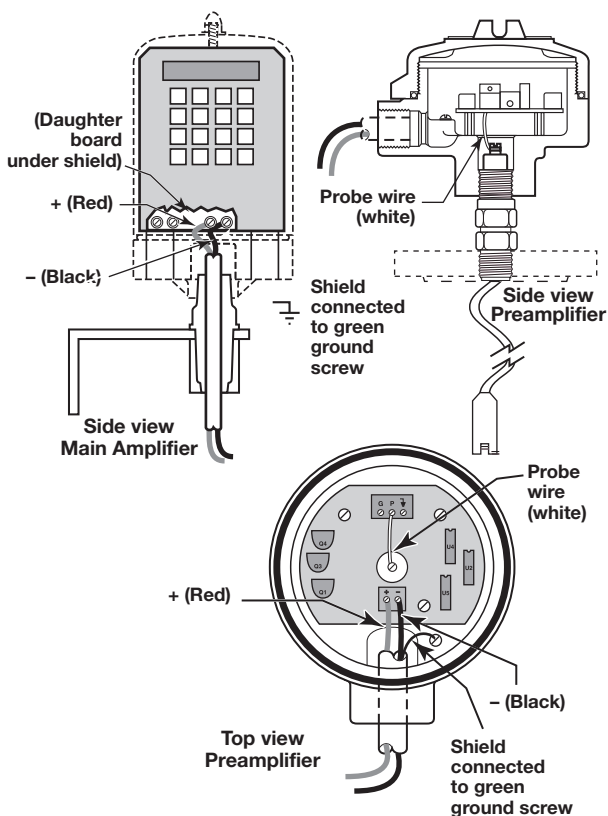

Figure 5
Remote amplifier assemblies are normally shipped from the factory assembled into an “L” mounting bracket. To install amplifier assembly, proceed as follows. Refer to Figure 5.
5. Route the twisted shielded pair cable up through the housing base as shown in Figure 5 on page 6.
7. Attach the twisted pair to the daughter board (refer to Figure 5) as follows: